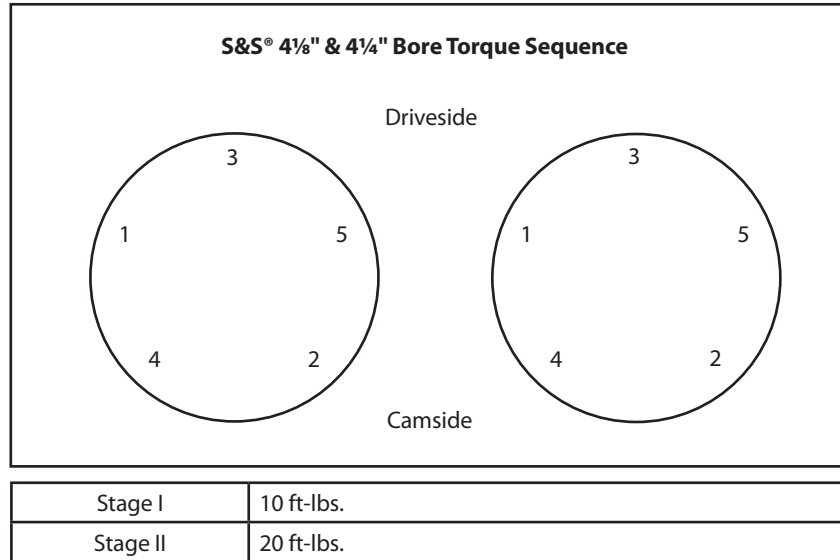

Figure 1
- 7- Torque bolts to 20 ft-lbs. in same pattern used to install heads during engine assembly. **See Figure 1.** Tighten bolts in following stages: